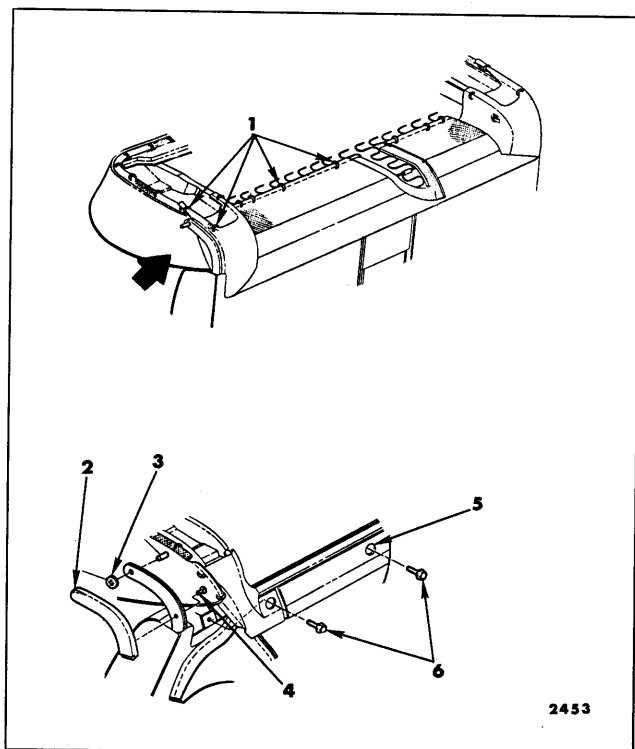

Fig. 15-20—Seat Back Removal (Right or Left) - 23739, 33839 and 44439 Styles
2. Remove hog rings securing lower edge of seat cushion trim bottom facing to seat cushion springs and frame (Fig. 15-20).
3. Remove outer hinge arm cover (Fig. 15-20); then, using a flat bladed tool carefully remove retainer securing seat back outer arm to hinge pin (Fig. 15-20).
4. Turn back seat back trim to expose seat back attaching bolt access holes; then, through access holes remove seat back frame to seat cushion frame attaching bolts (Fig. 15-20).
5. Turn seat assembly right side up. Carefully disengage seat back outer arm from hinge pin; then, tilt seat back forward and upward to disengage seat back inner arm from hinge pin (Fig. 15-20) and remove seat back from body.